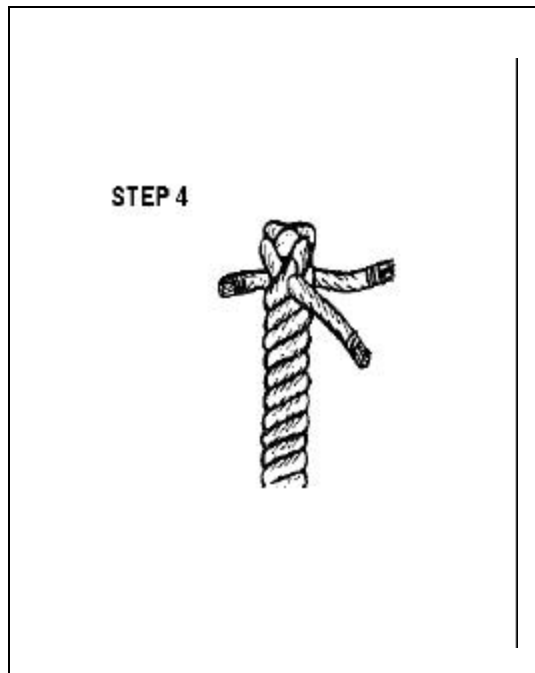

Figure 12-27. Making a Back Splice, Step 4
- **Step 4.** Turn the line and tuck each strand. Three complete tucks are required for each strand (Figure 12-27, page 12-22).